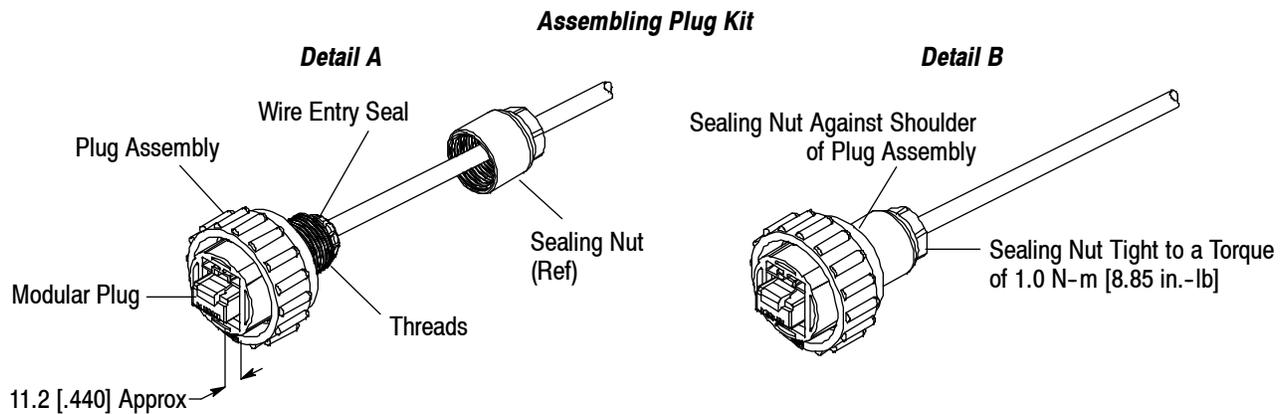

Figure 8
1. The modular plug must be fully seated in the plug assembly with the modular plug protruding from the mating face of the plug assembly to the dimension given in Figure 8, Detail A.
3. The sealing nut must be against the shoulder of the plug assembly and must be tight to the torque given in Figure 8, Detail B.